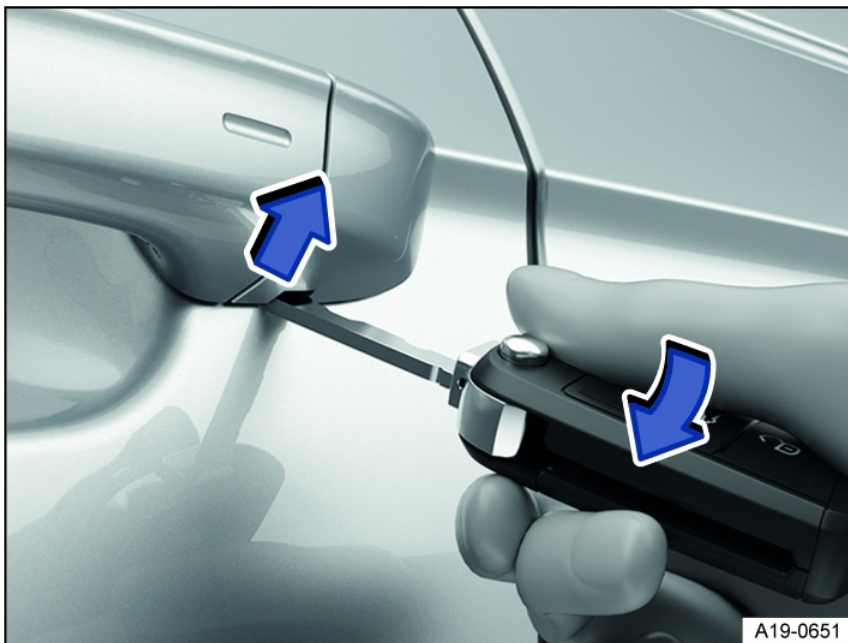

Fig. 60 Driver's door handle: prying off the cap.
3. Use the vehicle key to pry the cap off in the direction of the arrow *fig. 60*.